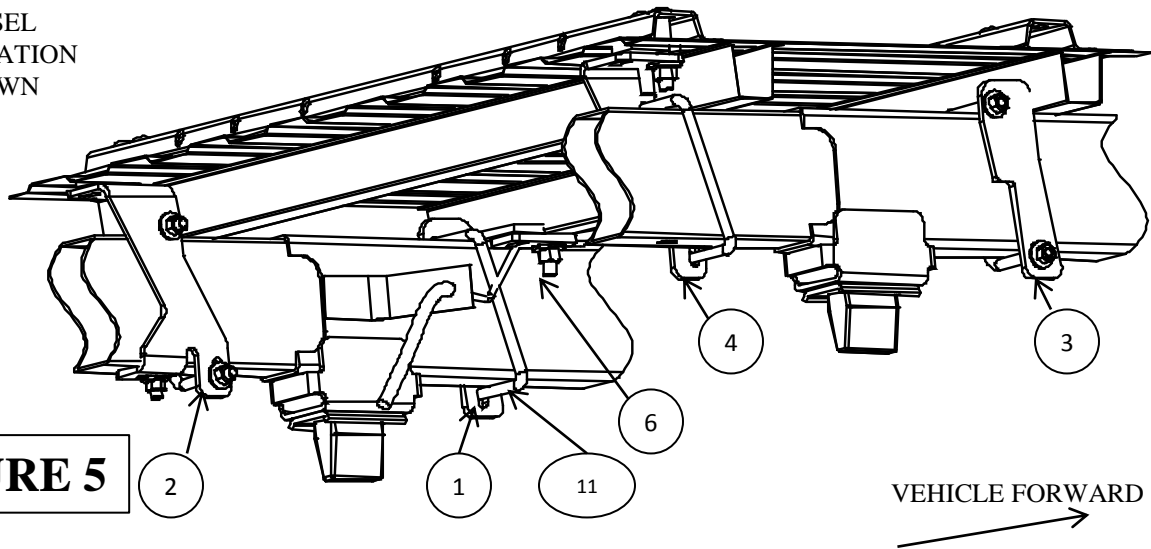

FIGURE 5
- b) Install a u-bolt (11) on each of the brackets. The u-bolt wraps around the inside of the frame. Loosely install 1/2 in. conical washers (8) and hex nuts (12) onto the ends of the u-bolts. **NOTE: The u-bolt on the driver side must be placed between the brake line and the frame. See Figure 5. Improper placement of the driver side u-bolt may result in damage to the vehicle's braking system. Move the electric wiring harness out of the way.**
13. Insert a 5/8 in. x 6 in. long carriage bolt (6) down through the rail, bed support, 4 in. tube spacer (4) and out through the frame bracket below. Install a 5/8 in. conical washer (19) and 5/8 in. hex nut (14) on the bolt.